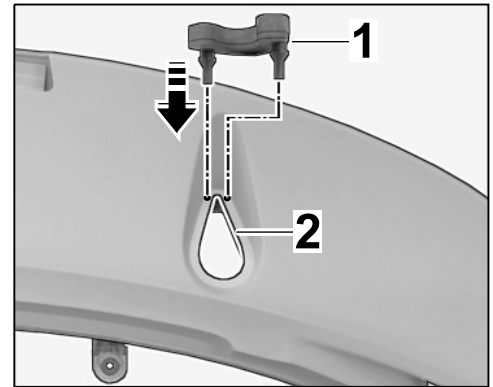

Figure 15
- 3.2.4 Fit rubber buffer (U-shape) in the cut-out for the spoiler drive in lower part of rear spoiler (at the left ⇒ *Figure 15/right*).